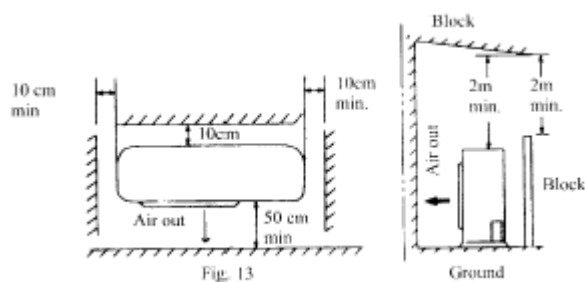

Fig. 13
- Where there leaves enough space around the unit for free air flow and maintenance. (See Fig. 13).